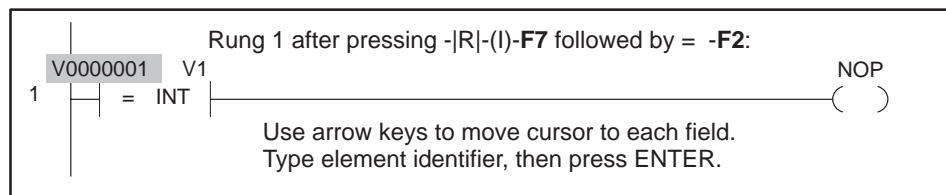

Figure 7-8 Entering Relational Contacts
2. Press the appropriate function key. The relational contact appears on the rung with two parameter fields, as shown in Figure 7-8.